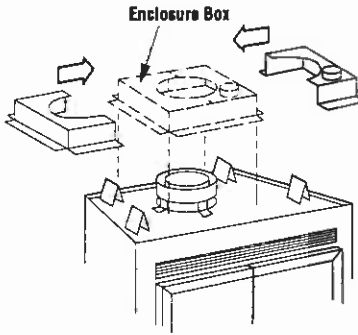

Figure 19
**Step 6.** Attach the cold climate kit, Model CCK, around the chimney collar with the screws provided (Figure 19).